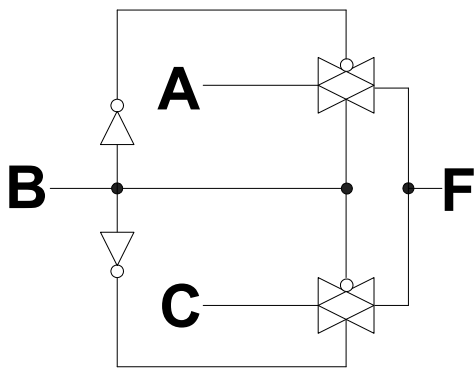

Figure 1 - CMOS circuit for question 1.
1. The logic function $F(A,B,C)$ implemented by the complementary metal-oxide semiconductor (CMOS) circuit shown in Figure 1: